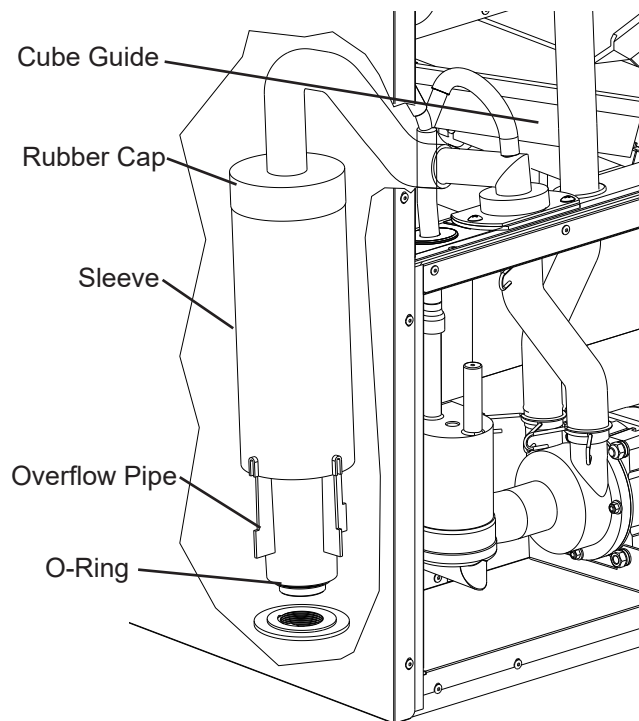

Fig. 1
- 3) Drain the water tank. Remove the front insulation panel, then slide the cube guide to the right. Remove the rubber cap and sleeve covering the overflow pipe. See Fig. 1. Unscrew the overflow pipe. After the water tank has drained, reconnect the overflow pipe. Replace the rubber cap, sleeve, cube guide, and front insulation panel in their correct positions. **NOTICE! Make sure the O-ring is attached to the bottom of the overflow pipe and be careful not to cross thread the overflow pipe.**